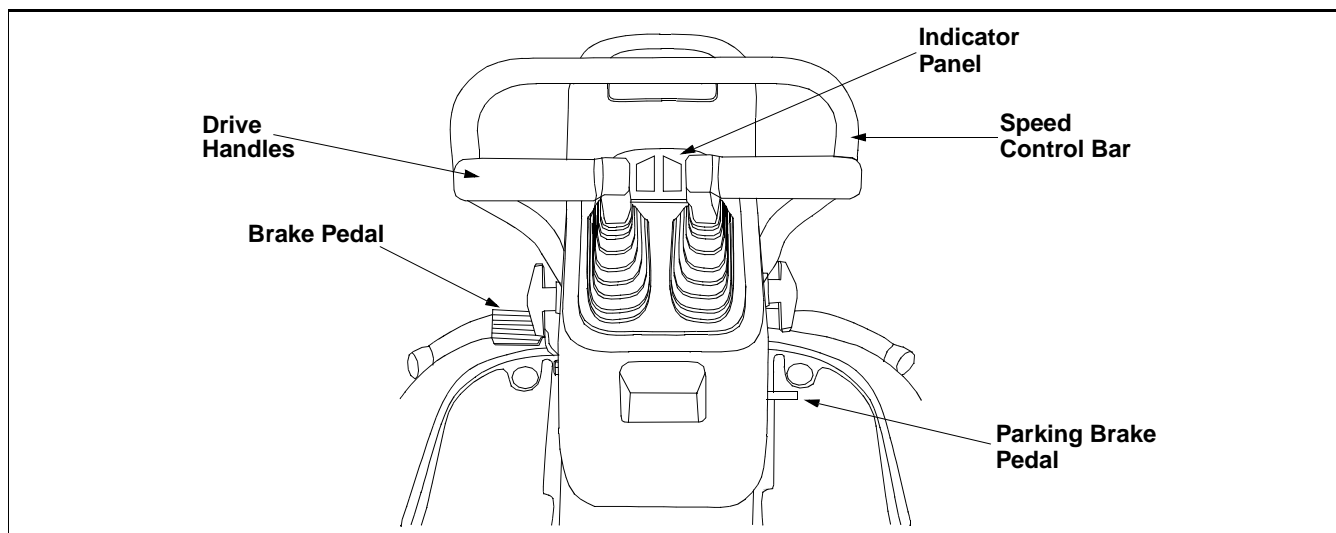

Figure 8
The brake pedal is located on the lower left side of the control tower. (See Figure 8) It is used to engage the brake in order to slow down or stop the unit. It is also used to engage the parking brake.
The parking brake pedal is located on the lower right side of the control tower. (See Figure 8) It is used to engage the parking brake. Engage the parking brake when the unit is not in use.
1. Push down on the brake pedal and hold. (See Figure 8)
The drive handles (left and right) are located at the top of the control tower. (See Figure 8) The drive handles are used to move, steer, and stop the Z-series. The drive handles will return toward the neutral position when released; however, the driver should place the drive handles in the neutral position so the unit will not move. If the drive handles are not placed in the neutral position, the Z-Series may creep.
4. Push down on the parking brake pedal to lock engagement. (Refer to Figure 8)